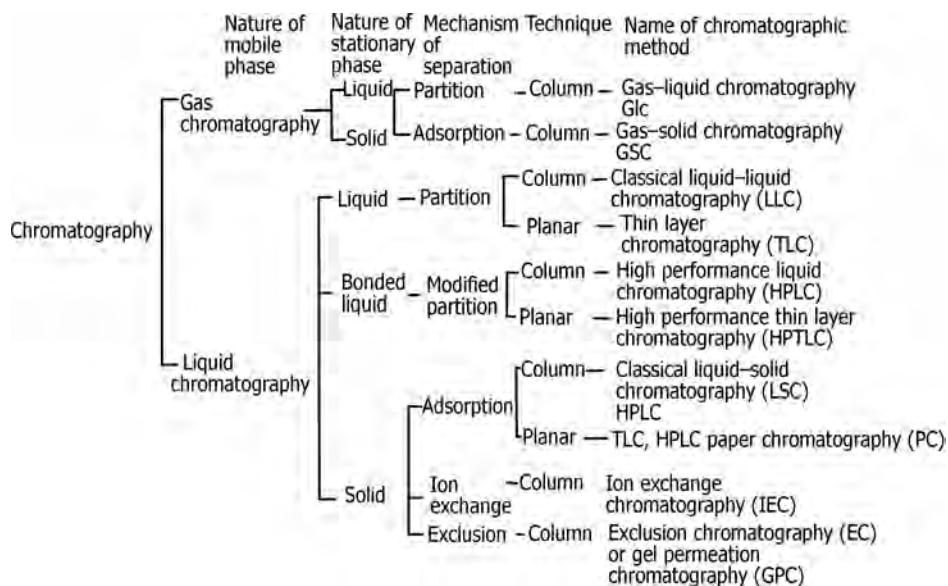

FIGURE 18.40 Classification of analytical chromatographic systems.
- The following chart (Figure 18.40) gives a classification of chromatographic systems.